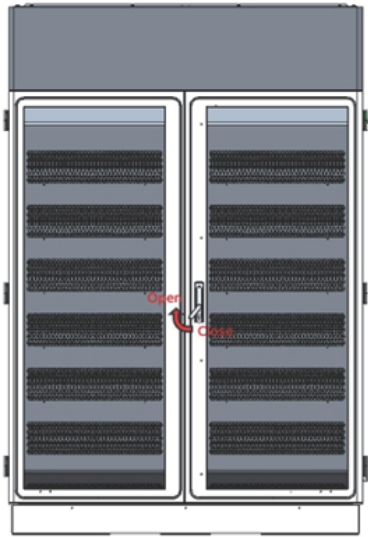

Figure 1
1. Open the rear door with the key and turn the door lock handle clockwise, see Figure 1.